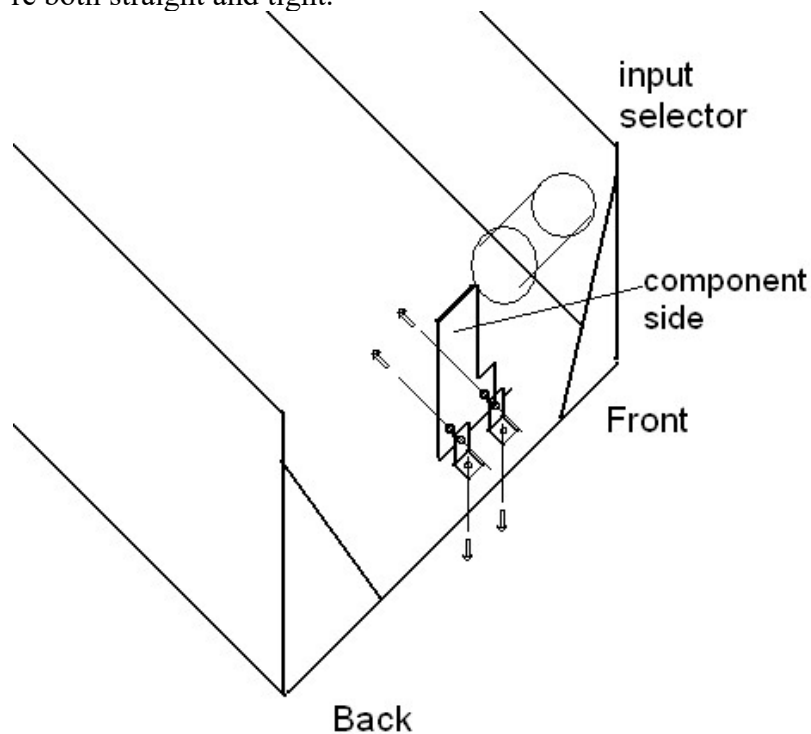

Figure 6-Mounting the power supply to the SCA80
- Use the old mounting holes from C11 to fasten the brackets to the chassis. See Figure 6.